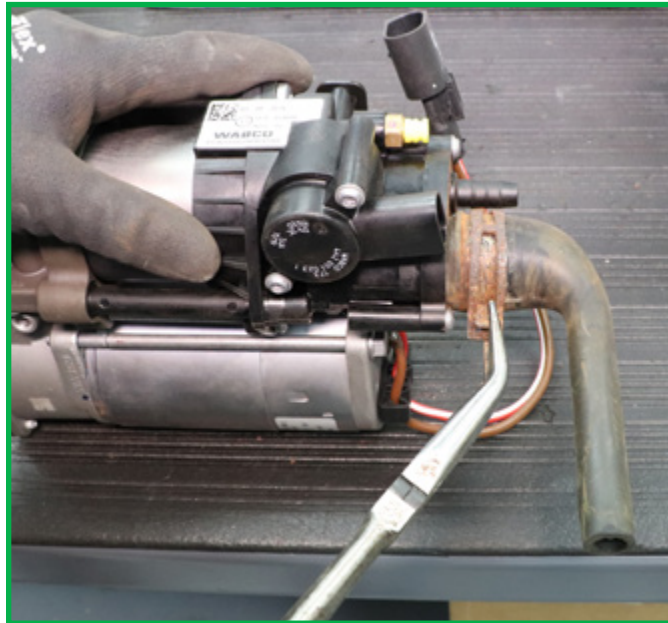

FIGURE 25
1. Install the exhaust hose on to the new compressor. (Figure 25)